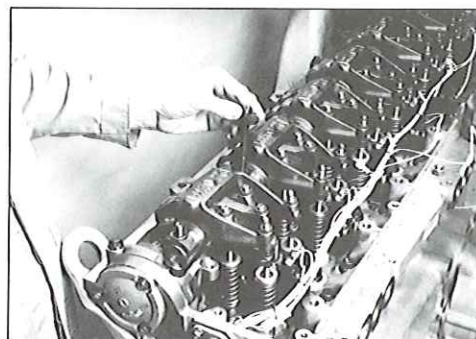

FIG. 65
9. Install the rocker shaft assembly using the bolts, end spacers and nuts (see Fig. 65).